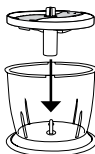

FIG. 3
3. Assemble the Disc Blade (with desired blade) over the pin in the food processor bowl as illustrated in Fig. 3.